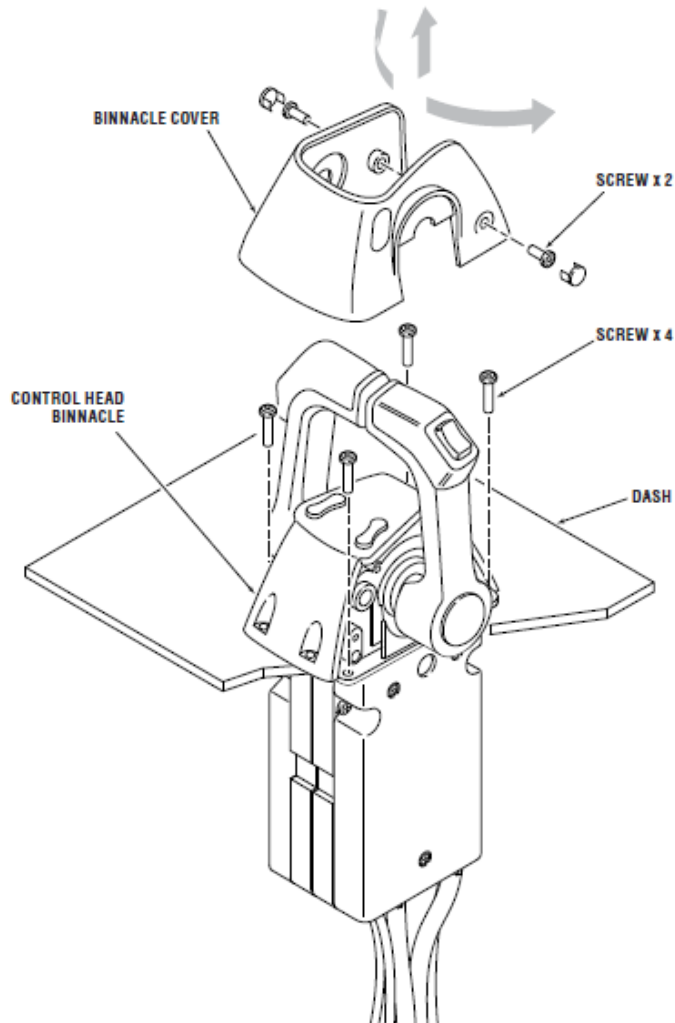

Figure 7-1. Control Head Binnacle removal.
2. Remove the two screws securing the binnacle cover. (Refer to figure 7-1.)
3. Remove the four screws that mount the control head binnacle to the dash. (Refer to figure 7-1.)